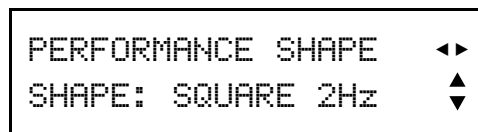

Figure 29- PERFORMANCE: WAVESHAPE
Pressing the PERF (3) button will enter the Performance Waveform menu, as shown in **Figure 29**.
Pressing the RIGHT (▶) arrow button will restore the LCD display to the initial menu screen of **Figure 29**.